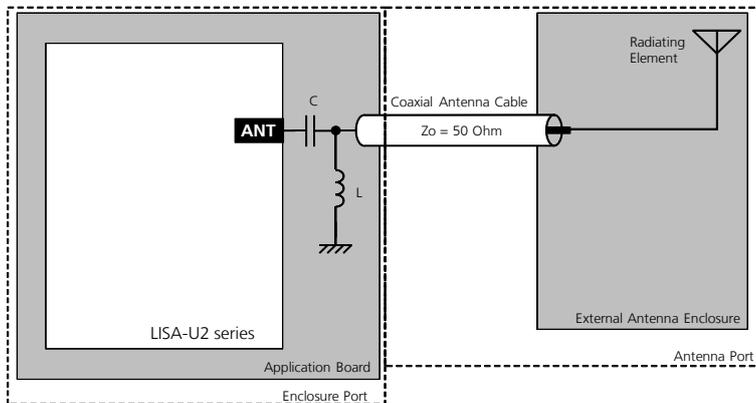

Figure 68: Antenna port ESD immunity protection application circuit for LISA-U2 series modules
- If the device implements an external antenna and the antenna and its connecting cable do not provide a completely insulated enclosure able to provide protection to direct contact discharge up to +4 kV / -4 kV and protection to air discharge up to +8 kV / -8 kV to the whole antenna and cable surfaces, an external high pass filter, consisting of a series 15 pF capacitor (Murata GRM1555C1H150JA01) and a shunt 39 nH coil (Murata LQG15HN39NJ02) should be implemented at the antenna port as described in Figure 68, as implemented in the EMC / ESD approved reference design LISA-U2 series modules
Antenna detection functionality is not provided when implementing the high pass filter described in Figure 68 and Table 53 as ESD protection for the antenna port of LISA-U2 series modules.